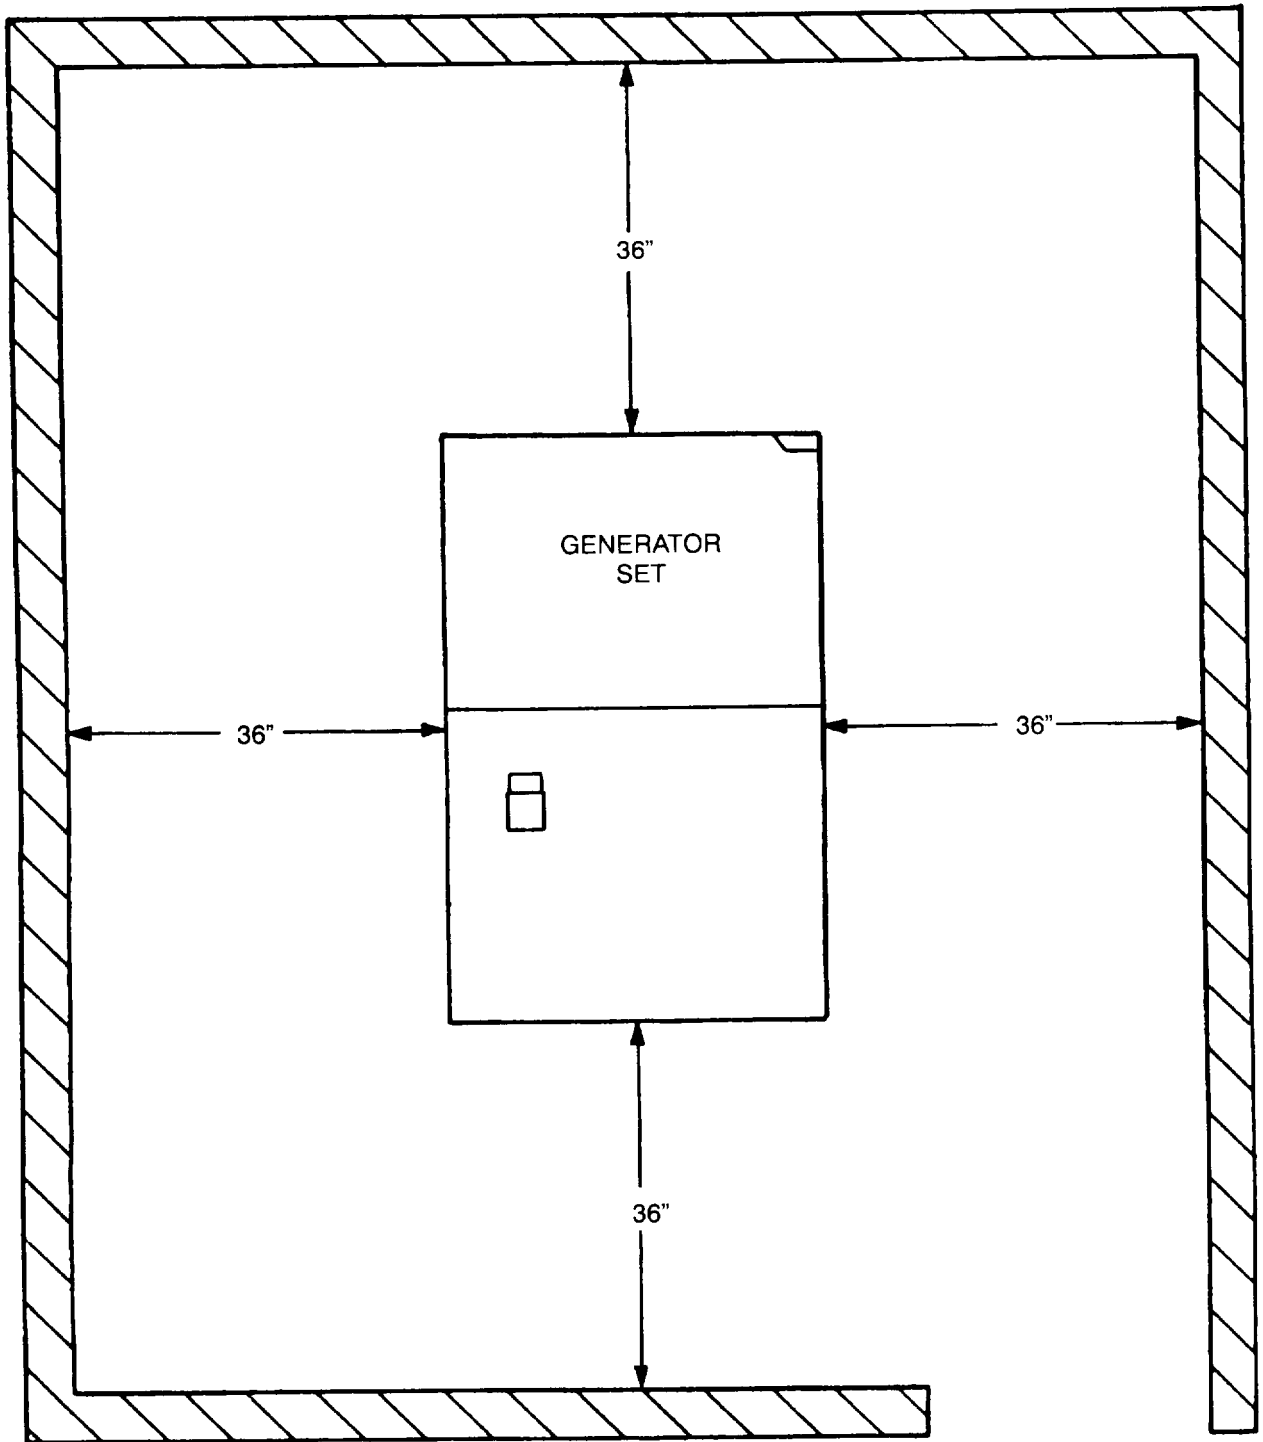
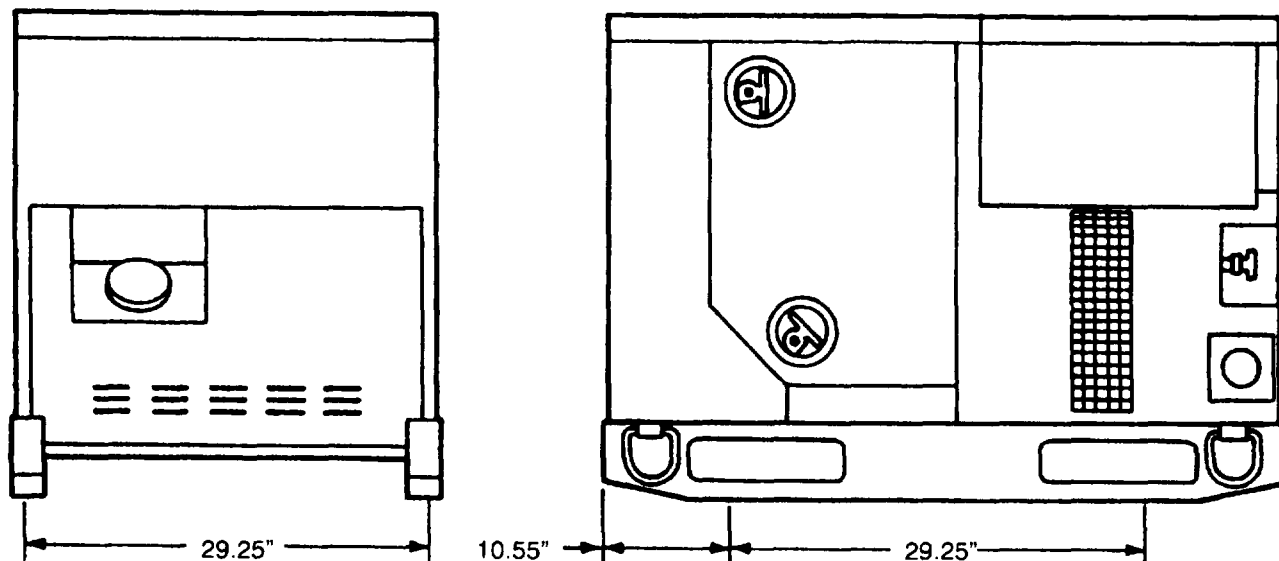

Figure 2-1. Minimum Enclosure Clearance Measurements
Figure 2-2. Base Mounting Measurements
- d. Refer to Figure 2-1 for minimum enclosure clearance measurement requirements and Figure 2-2 for base mounting measurements.
- b. Allow space on all sides for service and maintenance, refer to Figure 2-1.